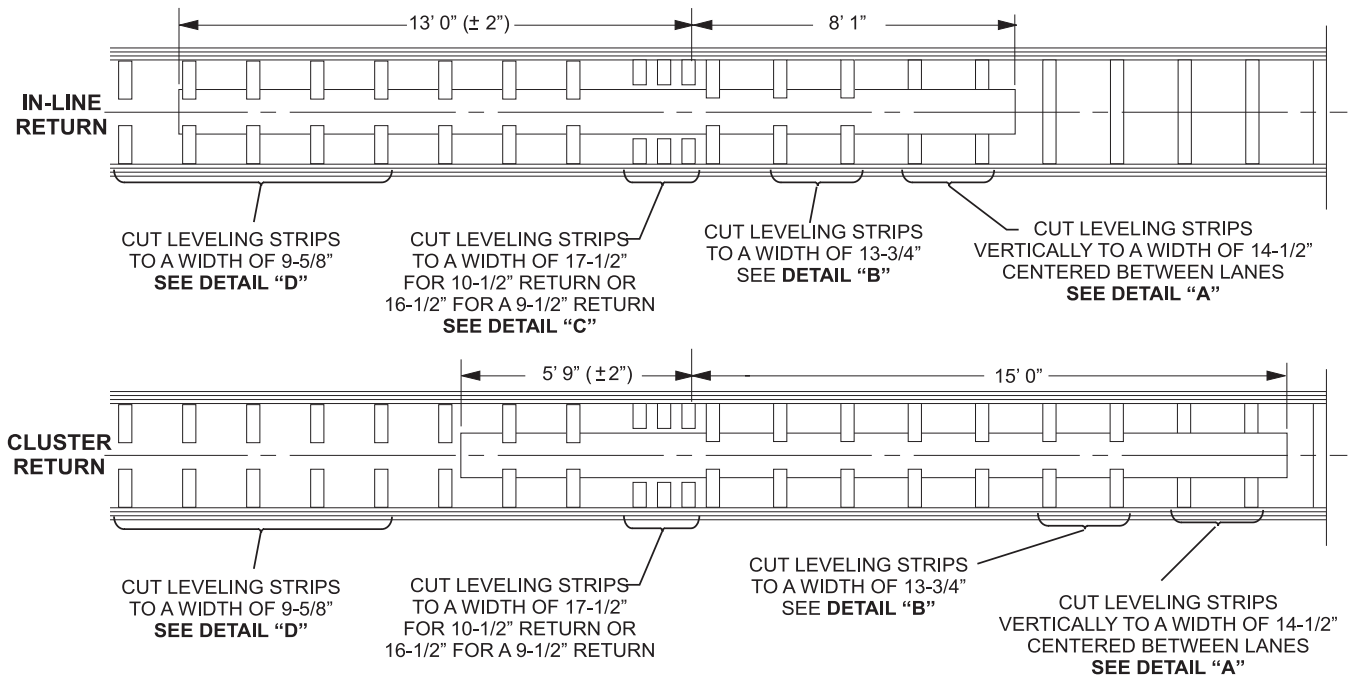

Figure 2
**i** **NOTE:** The in-line ball return and cluster ball return determine the location and dimensions of the concrete trench and leveling strips to be cut. Refer to Figure 2.
**DETAIL "A"** - Cut the two leveling strips in the Power Lift and Power Lift Access Door area vertically to a width of 14-1/2 inches, centered between lanes. Refer to Figures 2 & 3.
**DETAIL "B"** - Cut the two leveling strips at the retarder access door to a width of 13-3/4 inches. Refer to Figures 2 & 3.
**DETAIL "C"** - Cut the three leveling strips in the Tel-E-Foul area to a width of 17-1/2 inches for the 10-1/2 inch return or 16-1/2 inches for the 9-1/2 inch return. Refer to *Figure 2 & 3*.
**DETAIL "D"** - Cut all remaining leveling strips from the retarder area to the nose of the kickback to a width of 9-5/8 inches. Refer to *Figure 2 & 3*.